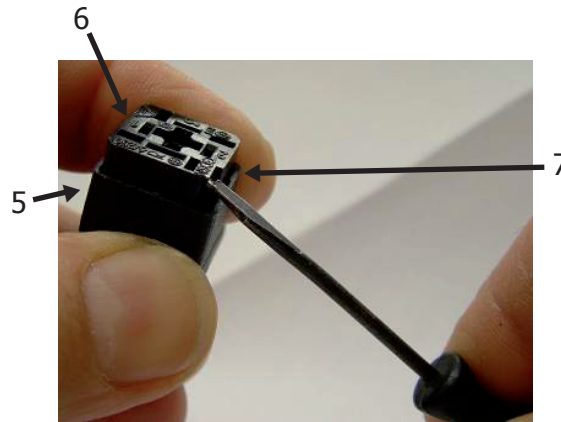

Figure 18 *Removal of Terminal Block*
- d. Using a small screwdriver in the mounting hole (7), lever the terminal block (6) out of the outer housing (5) (*Figure 18*).
- g. Press the terminal block (6) back into the outer housing (5) firmly (*Figure 18*), until a 'click' sound is heard.